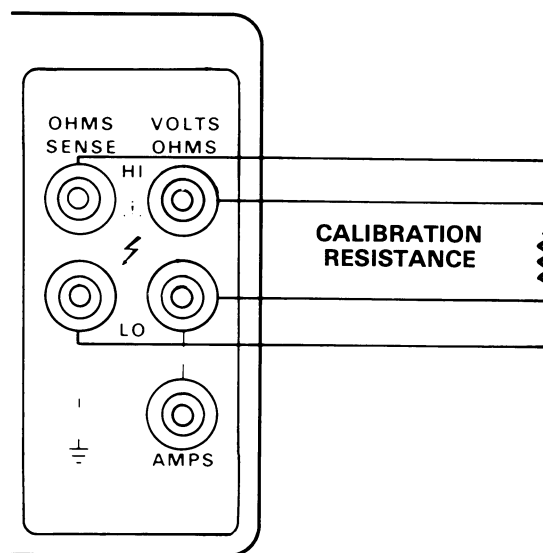

Figure 5-2. Connections for Verification of 20Ω, 200Ω, and 2kΩ Ranges
3. Connect a 19Ω calibration resistor to the instrument as shown in Figure 5-2. Note that the 4-terminal configuration is used for this measurement. Place the instrument on the 20Ω range and check to see that the displayed reading is within the limits in Table 5-3.
4. Connect a 190Ω calibration resistor to the instrument as shown in Figure 5-2. Switch the instrument to the 200Ω range and see that the displayed reading is within the limits set in Table 5-3.
5. Connect a 1.9kΩ calibration resistor to the instrument as shown in Figure 5-2. Switch the instrument to the 2kΩ range and check to see that the reading is within prescribed limits.
2. Connect the DC current calibrator to the Model 195A as shown in Figure 5-2. The HI side of the calibrator output should be connected to the AMPS terminal and the LO side calibrator output should be connected to the VOLTS OHMS LO terminal. Make sure the rear panel INPUTS switch selects the front panel terminals. Set the calibrator output to 0.0000 and enable the zero mode.